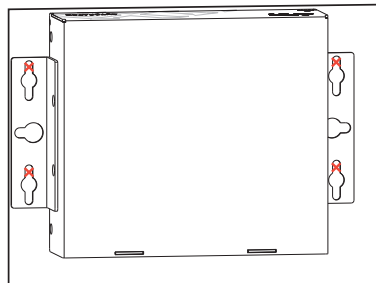

FIG. 3 Mark screw positions
1. Place the NMX-MM-1000 in the desired final position on the mounting surface and mark the screw position as indicated in FIG. 3.